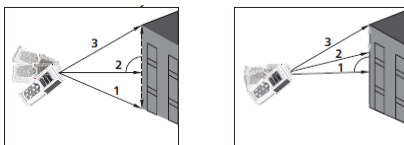

Fig. 8: Examples of indirect 3-point measurements
3. Position the instrument in the lowest point (1) of measurement (see Fig. 8) and press the  key. The result appears on the first partial display. The symbol " appears on the display with side "2" flashing
4. Position the instrument as horizontally as possible (2) (see Fig. 8) and press the  key to measure. The result appears on the second partial display. The symbol " appears on the display with side "3" flashing
5. Position the instrument in the highest point (3) of measurement (see Fig. 8) and press the  key to measure